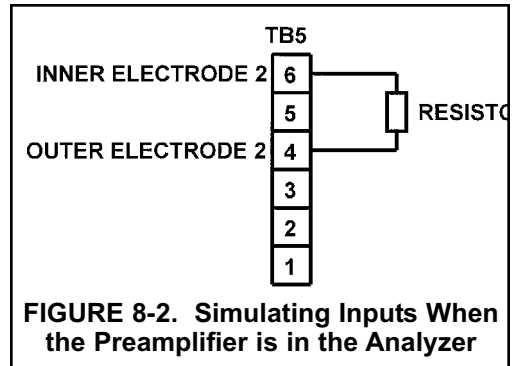

FIGURE 8-2. Simulating Inputs When the Preamplifier is in the Analyzer
2. Disconnect the sensor and connect a jumper wire between terminals 1 and 6 and terminals 4 and 6 on TB4. See Figure 8-2.
4. If a standard millivolt source is available, disconnect the jumper wire between terminals 1 and 6 and connect the voltage source as shown in Figure 8-2. Be sure to jumper the reference and solution ground terminals.